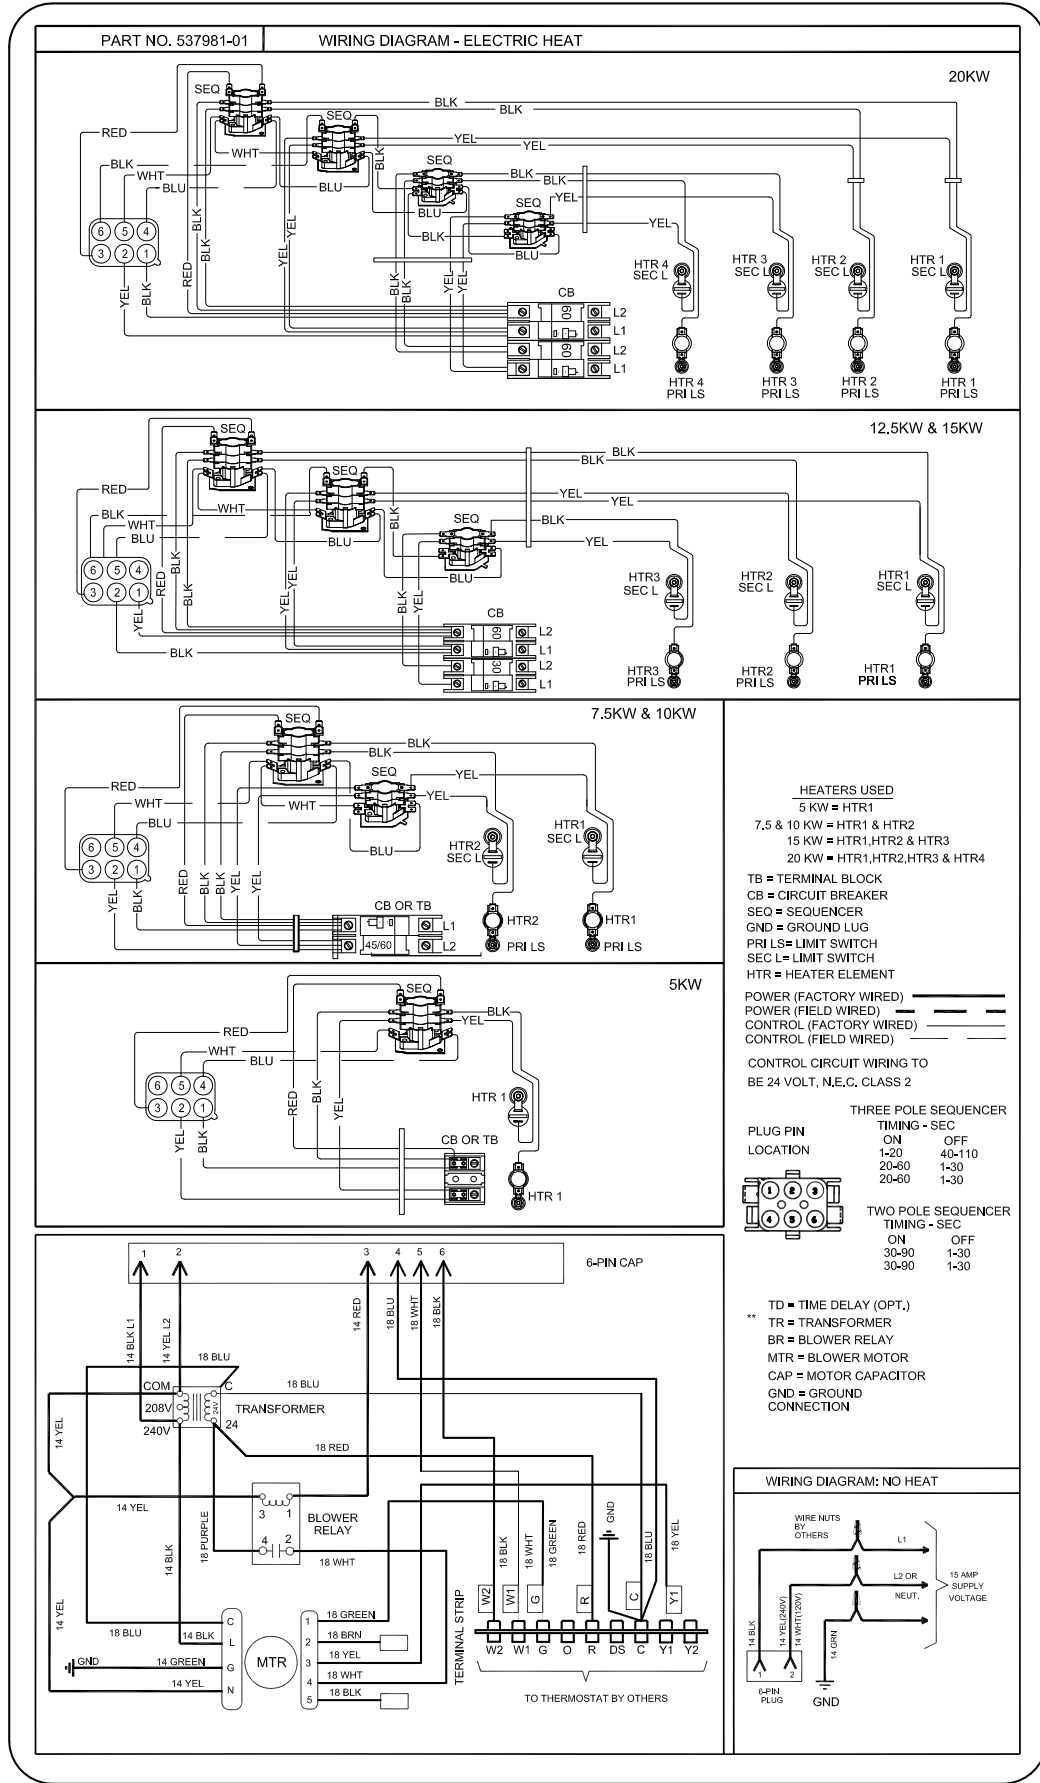

Figure 14. Typical Wiring Diagram MAHM*ETA Air Handler with Electric Heat – (Constant Torque Motor)
- Typical unit wiring (as well as wiring of optional field-installed electric heat) is given in Figure 14. Refer to the instructions provided with the electric heat section for proper installation.